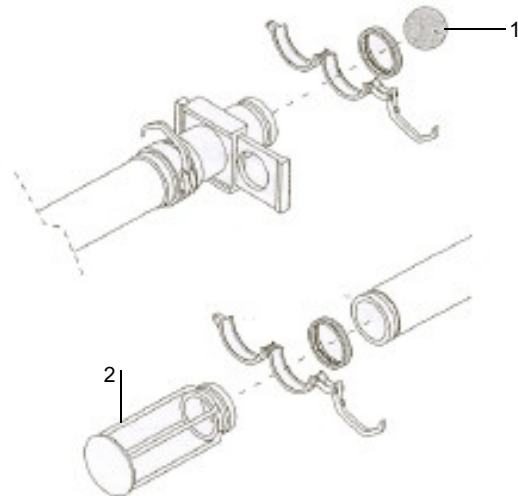
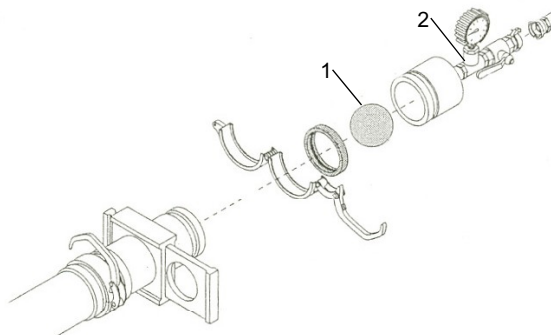

Fig. 23
Fig. 25
Wet a sponge and fit it into the pipe (Fig. 23 Ref. 1). Reconnect the pipe to the machine. Connect the sponge recovery container (Fig. 23 Ref. 2) to the outlet of the hose using the Victaulic fitting with gasket.
Connect the sponge recovery container (Fig. 23 Ref. 2) to the outlet of the hose using the Victaulic fitting. Insert the sponge at the hose inlet (wet and of a suitable diameter) (Fig. 25 Ref. 1) and connect the provided cleaning device with ball valve (Fig. 25 Ref. 2), making sure it is correctly locked.
**⚠ The sponge may be expelled violently from the end of the hose: lay out the terminal hose correctly; if the hose is blocked, the sponge will not be expelled. Switch off the air supply by pulling the lever (Fig. 25 Ref. 2).**
Drain out the water tank, pull the evacuation lever (Fig. 25 Ref. 2) to the vertical position.
- Start the machine and run the engine at low speed and adjust the pump flow rate to its minimum using the switch (Fig. 25 Ref. 2) on the electrical cabinet.
- Turn the inversion switch (Fig. 25 Ref. 2)